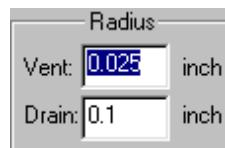

Figure 154. QuickCast Radius Dialog
5. The defaults for the size of the Vents and Drains that 3D Lightyear software will create is Build Style-dependent. The values shown in the respective radii fields as shown in Figure 154, represent the size specifications that our Process Engineers have determined to be optimum for these features in the majority of cases.